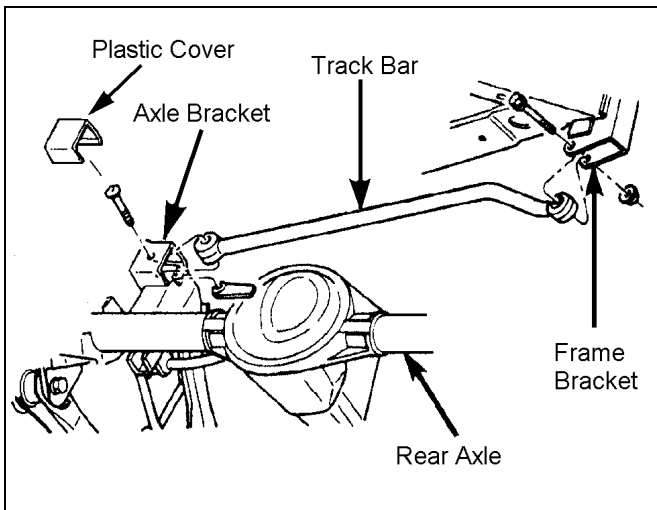

Figure 12
- 2) Disconnect the track bar from the frame bracket. See figure 12.
- 4) Separate the track bar from the axle bracket. Remove the track Bar. See Figure 12.